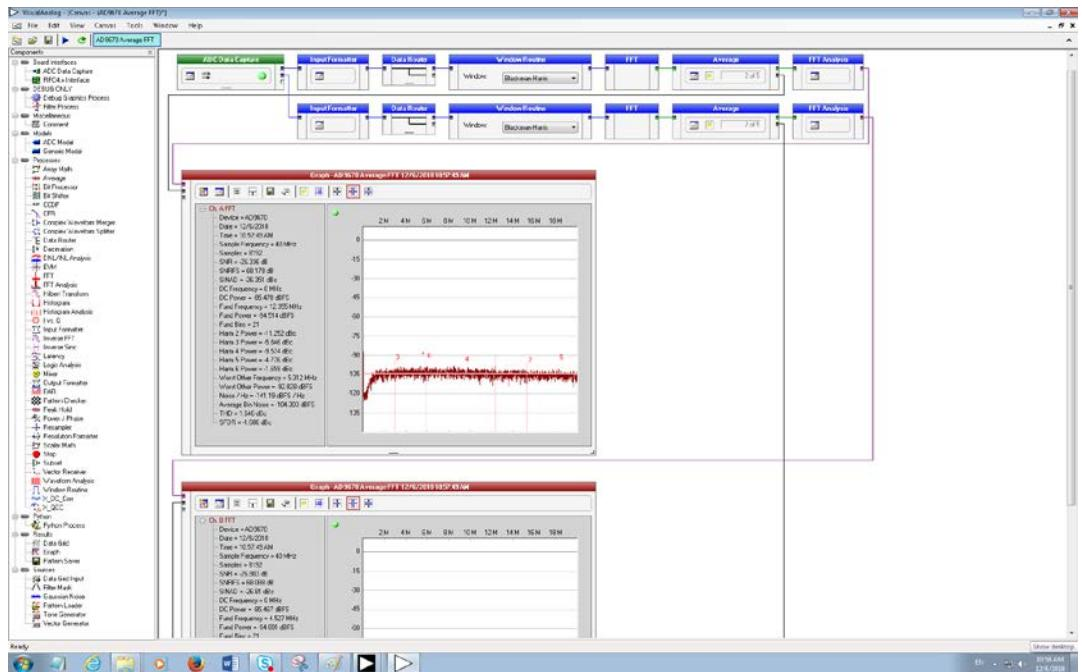

Figure 11. Average FFT Canvas
14. Figure 11 shows both the FFT output and how the analog and digital high-pass filters shape the noise floor in the low frequency region.